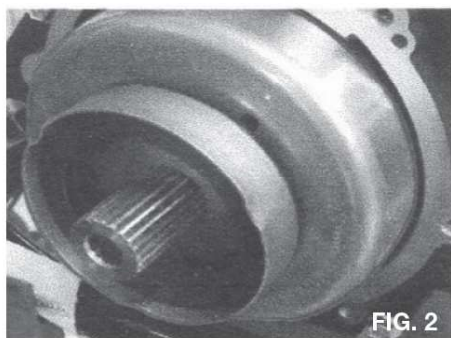

FIG. 2
5. Slide the alternator rotor off the sprocket shaft (figure 2).